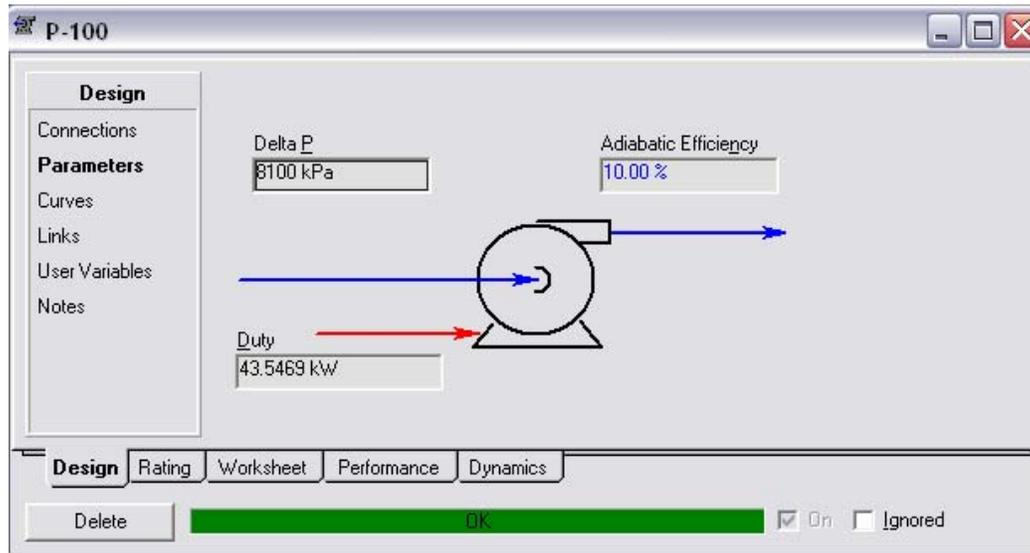

Figure 3-5: Changing Pump Efficiency
3. In the **Adiabatic Efficiency** box on the parameters page, enter **10**. The units should be in per cent as shown in Figure 3-5.